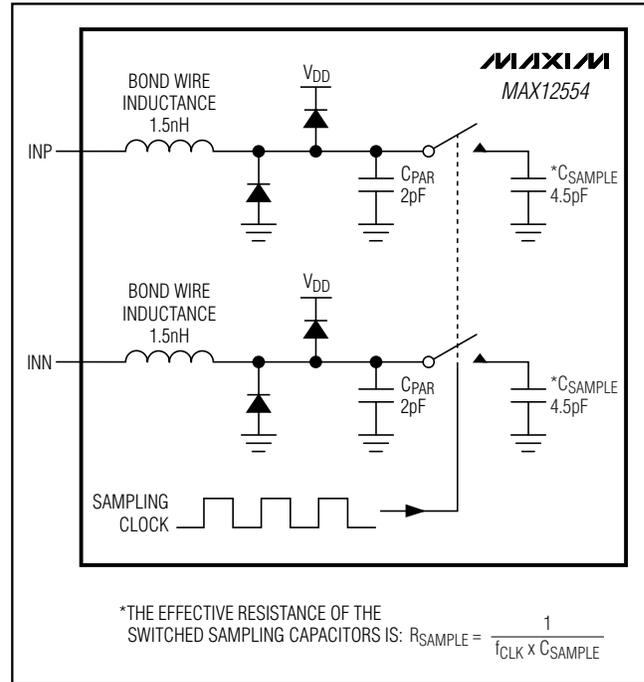
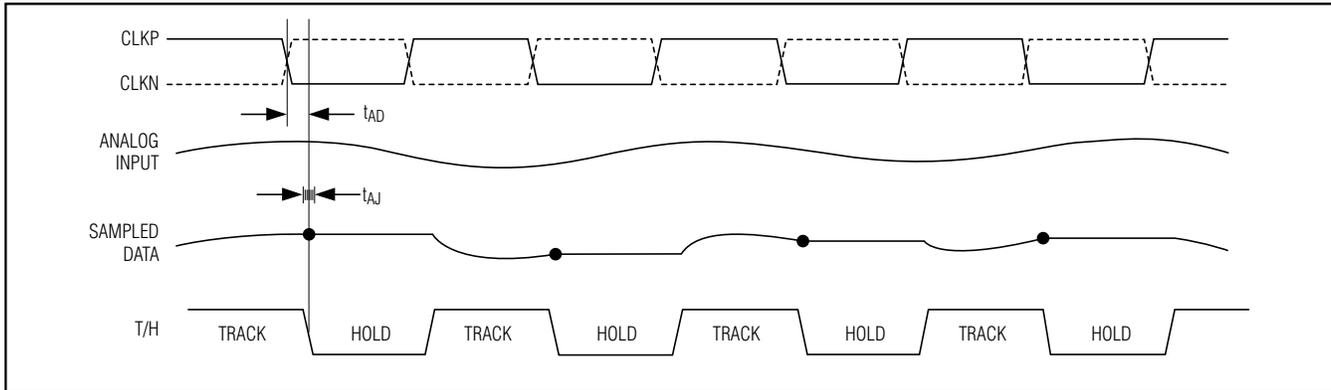

Figure 3. Simplified Input T/H Circuit
Figure 4. T/H Aperture Timing
Figure 3 displays a simplified functional diagram of the input T/H circuit. This input T/H circuit allows for high analog input frequencies of 175MHz and beyond and supports a common-mode input voltage of $V_{DD} / 2 \pm 0.5V$.
The MAX12554 sampling clock controls the ADC's switched-capacitor T/H architecture (Figure 3) allowing the analog input signal to be stored as a charge on the sampling capacitors. These switches are closed (track) when the sampling clock is high and open (hold) when the sampling clock is low (Figure 4). The analog input signal source must be capable of providing the dynamic current necessary to charge and discharge the sampling capacitors. To avoid signal degradation, these
- INP, INN analog inputs are disconnected from the internal input amplifier (Figure 3).